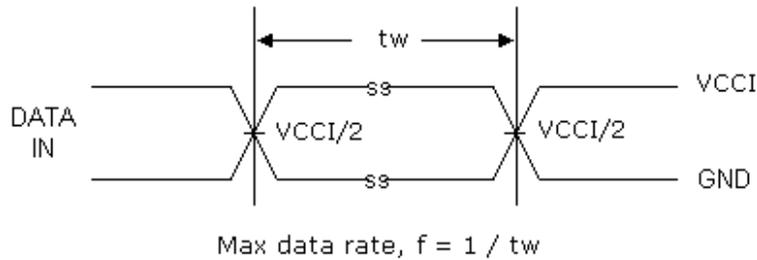

Figure 10. Maximum Data Rate
- 16. Maximum data rate is specified in megabits per second with all outputs switching, (see Figure 10). It is equivalent to two times the F-toggle frequency, specified in megahertz. For example, 100Mbps is equivalent to 50MHz.